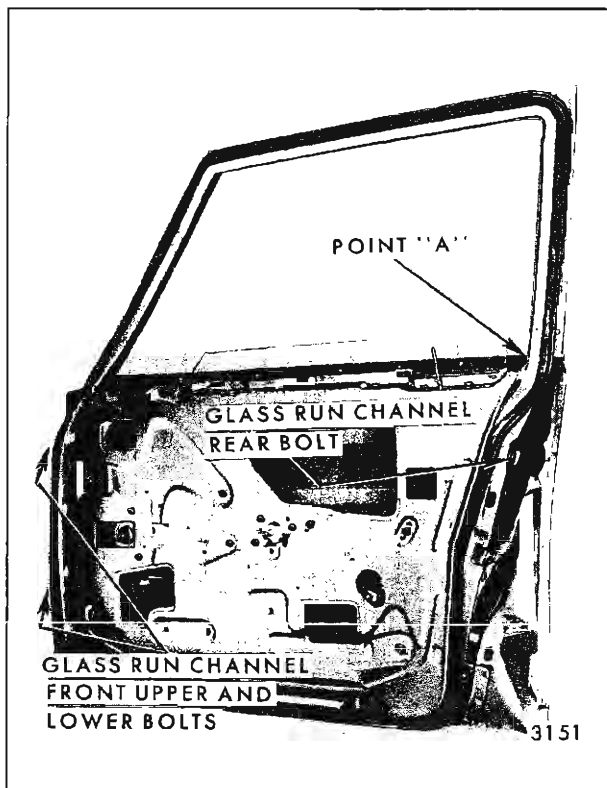

Fig. 6-101—Glass Run Channel Installation "B" Closed Styles
2. On "B-11" styles, remove front and rear glass run channel attaching bolts (Figure 6-101). On "B-36, 46 and 69" styles, remove glass run channel rear bolt (Figure 6-101).
- upper and lower bolts. Remove through access hole, Figure 6-101.
6. To install, reverse removal procedure. Begin installation by installing glass run channel rear attaching bolt (Figure 6-101). Starting at Point "A", Figure 6-101, engage run channel attaching clips into door upper frame making certain that run channel is fully seated, particularly at upper corners.